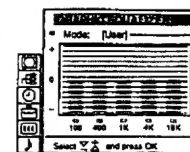

Fig. 32
- 1 Select "Sound Control" in the main menu, then select "Graphic Equalizer" using  $\Delta+$  or  $\nabla-$  and press OK. The GRAPHIC EQUALIZER menu appears (See Fig. 32).